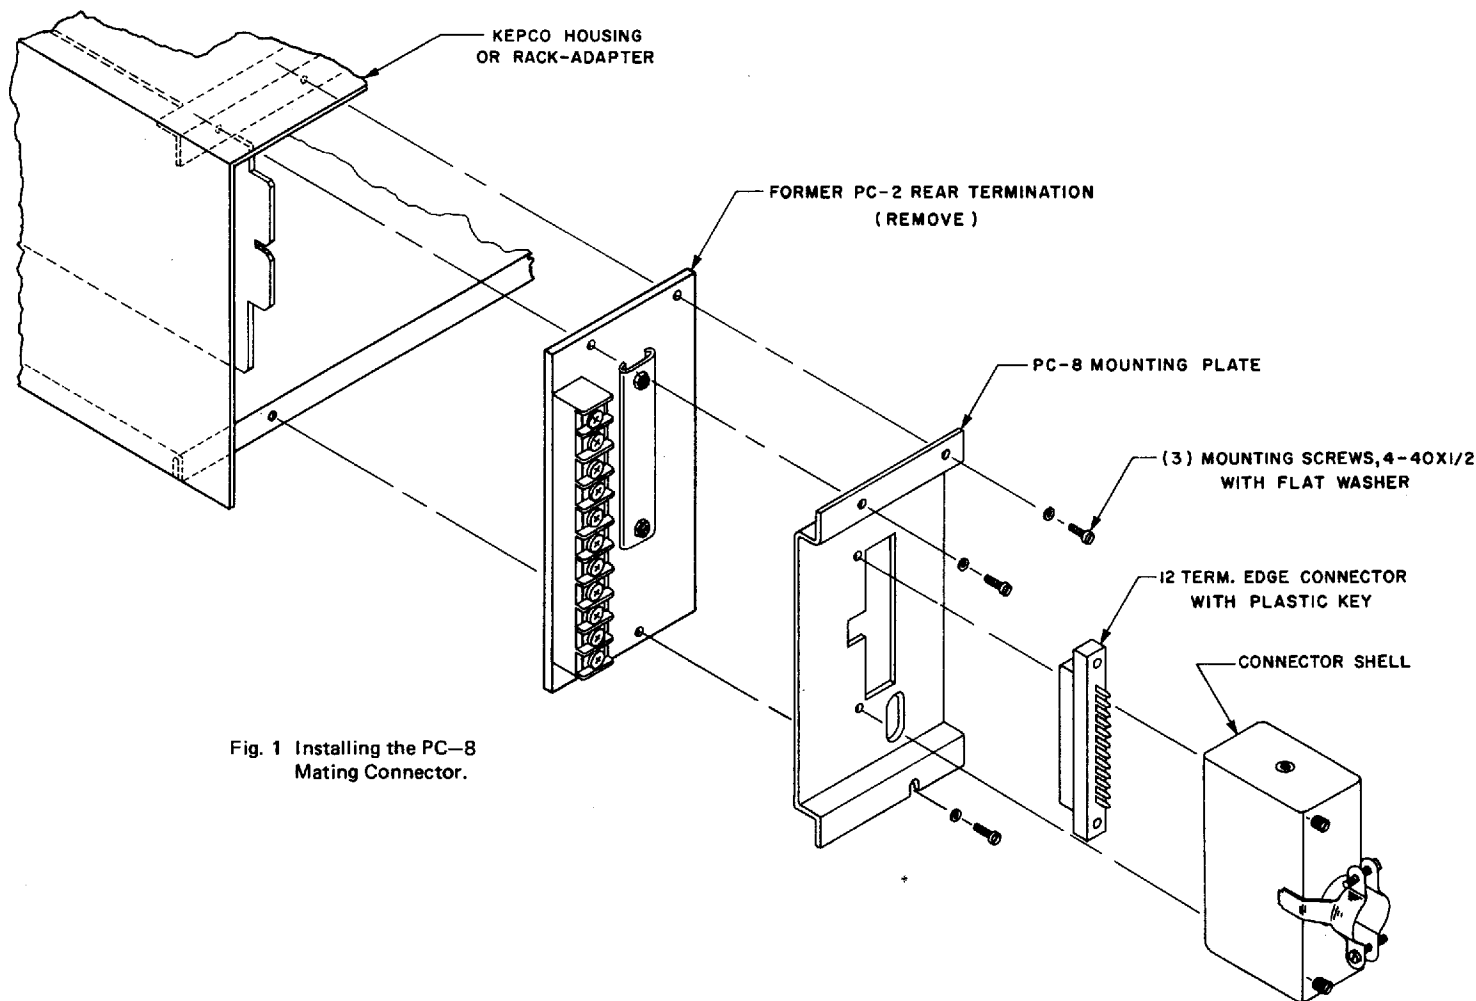

Fig. 1 Installing the PC-8 Mating Connector.
GENERAL DESCRIPTION (See Figure 1)
- 4) Install MOUNTING PLATE with the indicated hardware (See FIG. 1) but **do not tighten screws at this time**.